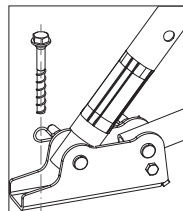

Fig. A4.03a
3. Fix base plates of push-pull props and kickers to a sufficiently load-bearing surface, e.g. with Anchor Bolts PERI 14/20x130, Item no. 124777. (Fig. A4.03a)